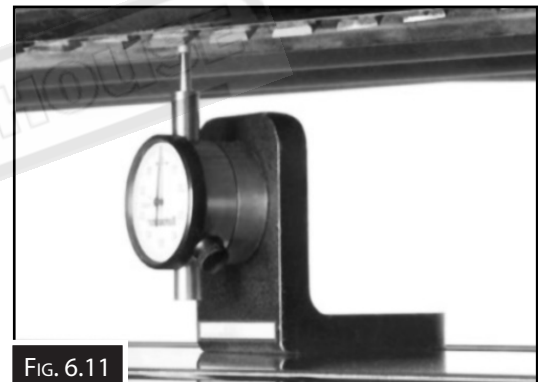

FIG. 6.11
4. Using a dial indicator as shown in Fig. 6.11, find the bottom dead centre of any blade edge by slowly rocking the cutterhead pulley back and forth until the dial indicator finds the lowest point, then set the dial indicator to zero.